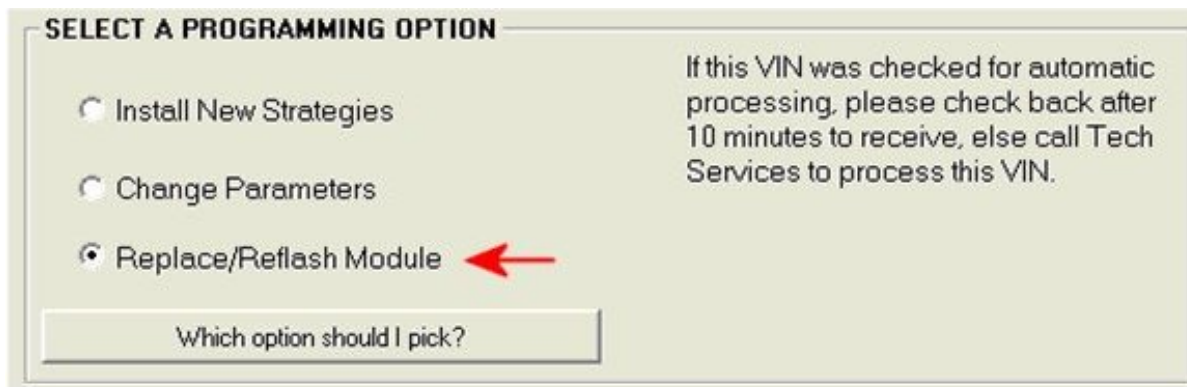

Figure 10
Step 25 and Figure 10 have been revised.